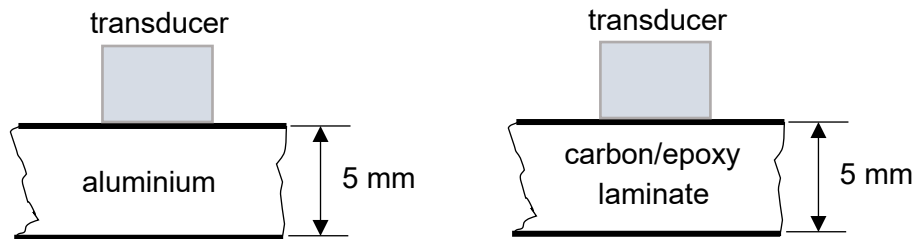

Figure B3
- a) At what times are you expecting the backwall echoes to arrive for the two samples inspected by pulse-echo ultrasonics in the thickness direction shown in Figure B3? (2 marks)